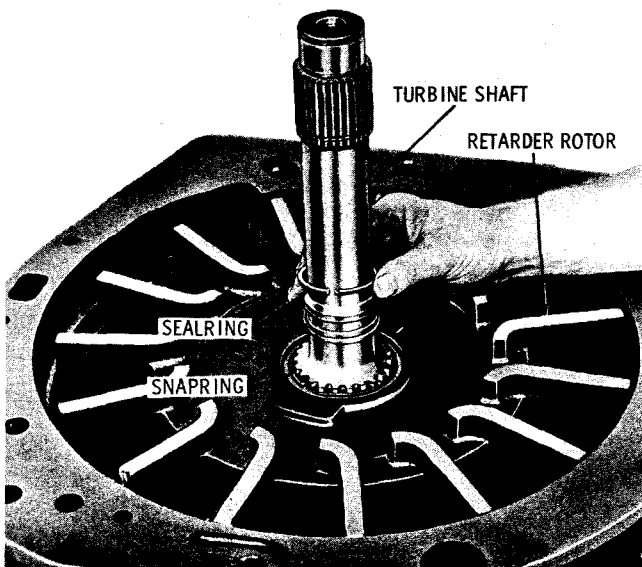

Fig. 7-49. Installing sealrings onto turbine output shaft
(10) Install the hydraulic retarder rotor (fig. 7-49). Install the snapping that retains the rotor.
(16) Install the low-splitter clutch drum assembly as outlined in (6), above.
(17) Install the remaining pitot tube bolt, and tighten both bolts as outlined in (7) and (8), above.
(18) Install two (CBT) or three (CLBT, VCLBT) step-joint sealrings onto the turbine output shift (fig. 7-49).